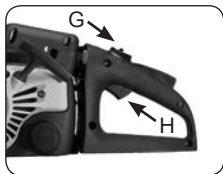

Fig. 9E
- Latch throttle advance: depress latch and hold (G) squeeze throttle trigger (H) release trigger and then the latch (Fig. 9E).